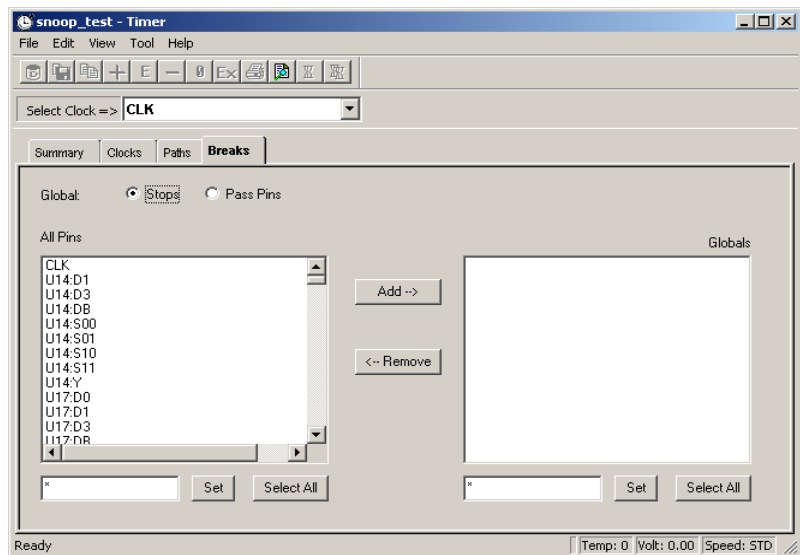

Figure 2-8. Breaks Tab, Stops Selected
2. **Select Global Stops or Pass Pins.** The All Pins list box displays the pins, as shown in Figure 2-8.